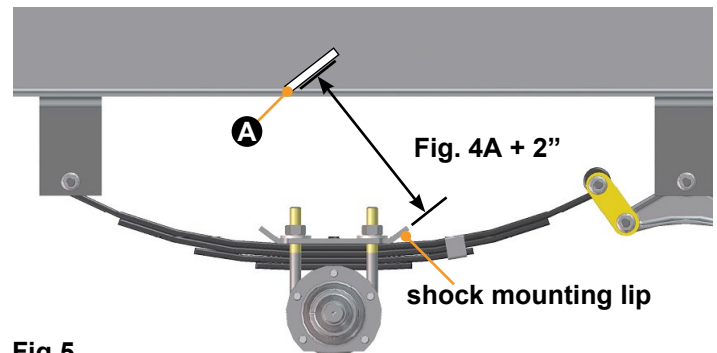

Fig.5
7. Make a measurement perpendicular to the shock mounting lip on the tie plate (Fig.5) that is the same distance measured in step 5 (Fig.4A), then add 2" and make a mark on the I-beam parallel to the shock mounting lip on the tie plate (Fig. 5A).